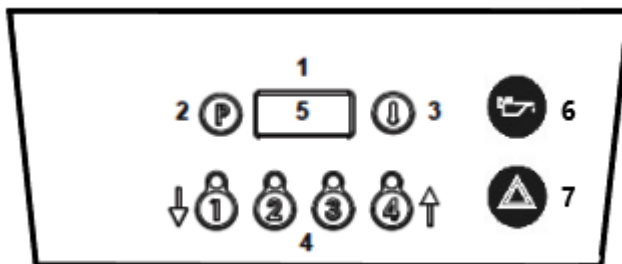

Figure 5 – E3840XP/E3840FXP Control Panel
3.3.4 E3840XP/E3840FXP Fryer Control Panel (See Figure 5)